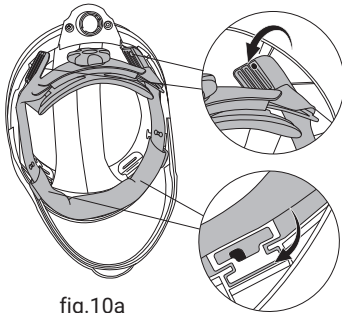

fig.10a
- Remove headgear from face shield (See fig.10a / 10b).